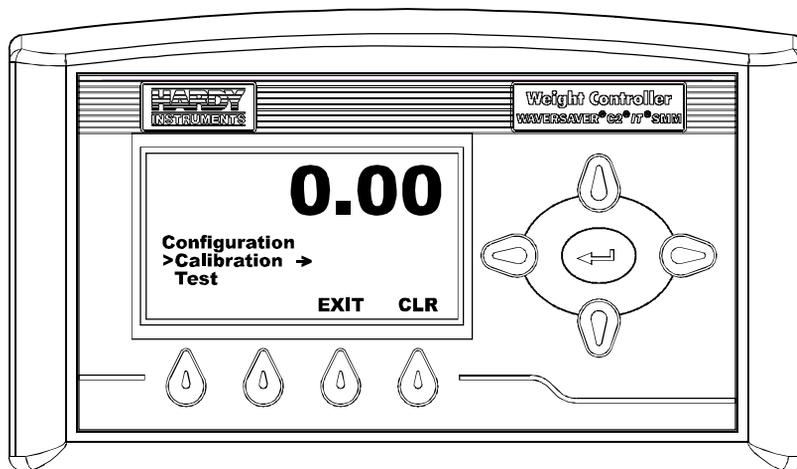

FIG. 304 CONFIGURATION MENU/SELECTING CALIBRATION
Step 3. Press the Down Arrow button until the cursor is in front of Calibration. (See Fig. 304)